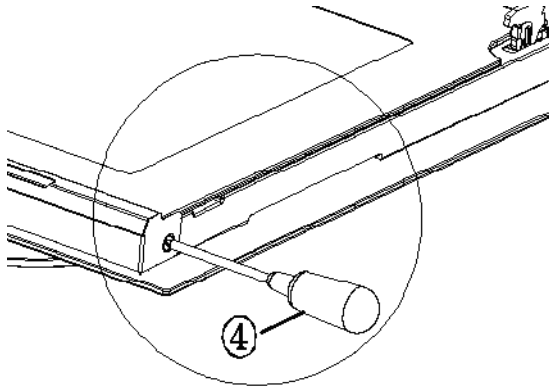

Figure 5
1. To disassemble two screws on the beam with cross screwdriver, as shown in figure 5.